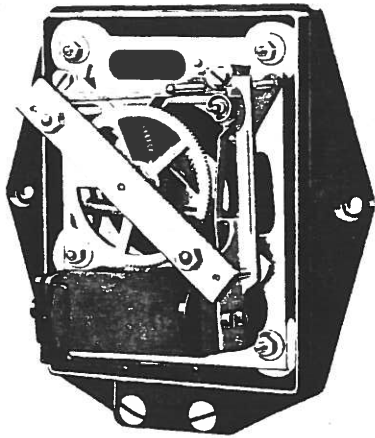

FIG. C9.
- (38).—All Impulse Clocks contain a step-by-step mechanism similar to that illustrated at Fig. C9. When this is fixed without exposed terminals, two studs are provided at the bottom of the clock front so that individual clock can be "shorted" if fast, and advanced by means of a dry cell if slow. The studs are a precautionary arrangement to avoid the necessity of taking the clock down in case adjustment of the clock hands is found necessary. To advance all the clocks together, see paragraph 18.
- (39).—The movement is set with an ammeter in circuit by the makers, and it is essential that an ammeter be used when any adjustment is made, and that the movement will operate with a current of 0.12 amp. This must be measured with care.